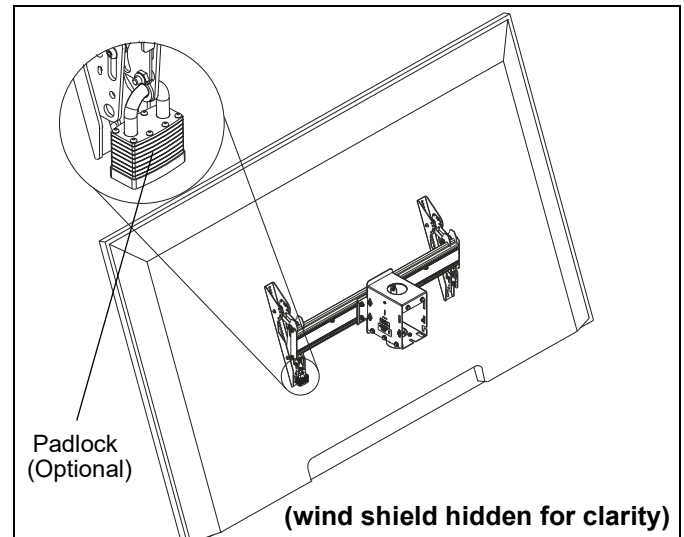

Figure 22
1. Add padlock (not included) to each interface bracket to lock latch and to provide security for displays. (See Figure 22)